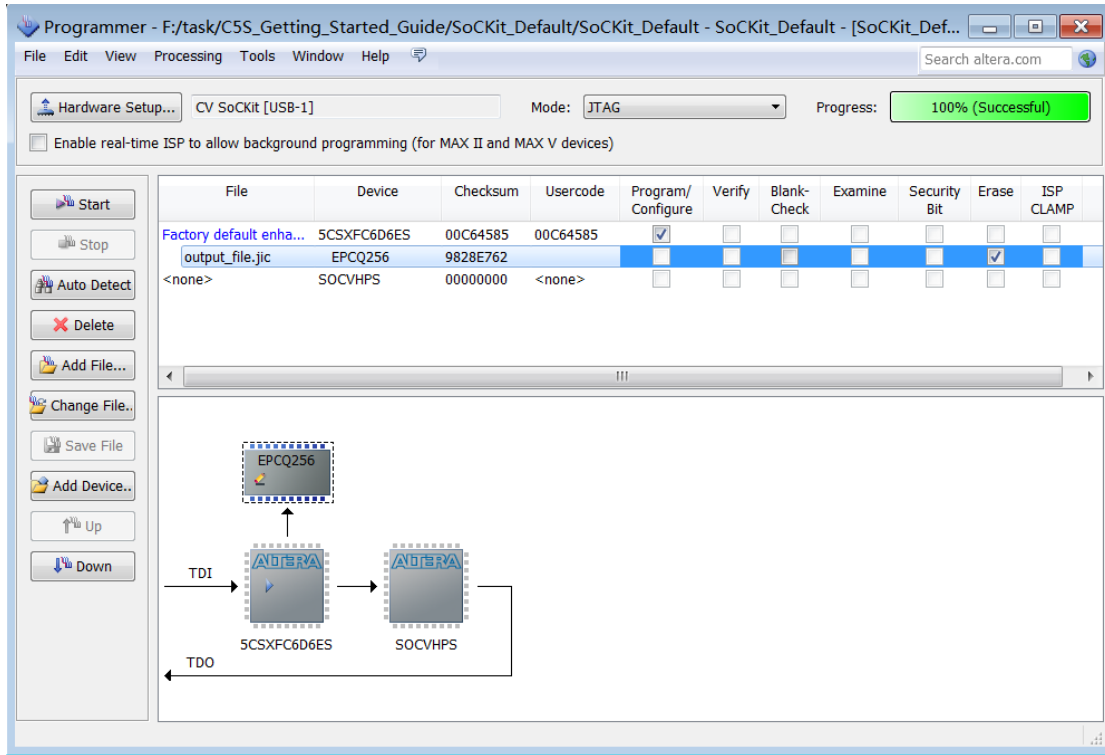

Figure 7-9 Erasing setting in Quartus II programmer window
4. Click the FPGA device, right click mouse and click **Change File**. Then select .jic file for FPGA (See **Figure 7-9**).